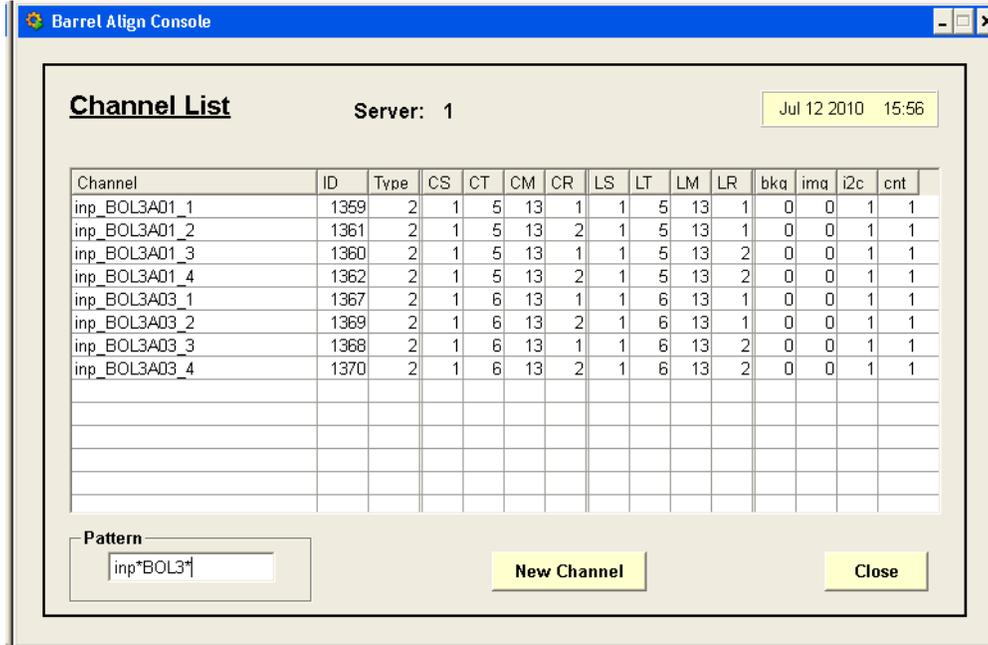

Figure 2.7: Channel list
- The channel list is displayed in Figure 2.7. The New Channel button is for experts only. Initially the list is empty. By means of the Pattern selection, in which any regular expression is possible, a subset of the channels is listed. Make sure the input focus is set to this widget and press Enter to evaluate the pattern. The default is all '*', but it will take some time to fill the list with 707 channels. Figure 2.7 shows the list of channels as a result of the pattern: inp*BOL3*. Pressing a column header will reverse the order of the list, belonging to that header. The columns which are displayed are a subset (but an important subset) of the parameters. From left to right: